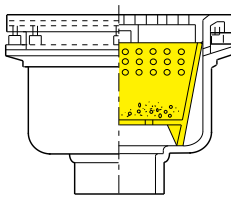
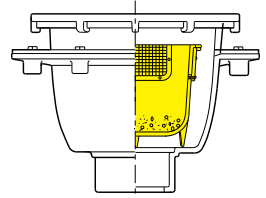

Fig. 8E
Fig. 8F
**Solid Bottom Ported Buckets:** Are particularly suitable for special applications such as can washing, dairy, creamery and potato peelings drains. The bottom portion of the bucket is solid except for four 1/4" drain holes which drain the bucket at the end of a discharge cycle. A ported opening or area is provided at the top of each side of the bucket. Stainless steel buckets (Fig. 8E) are perforated with 1/4" holes on 1/2" centers. Aluminum buckets (Fig. 8F) have ports which are lined with 1/8" mesh stainless steel screen. With this type of bucket, even small solids in suspension will settle to the bottom of the bucket and be retained. This prevents any possibility of line stoppage.